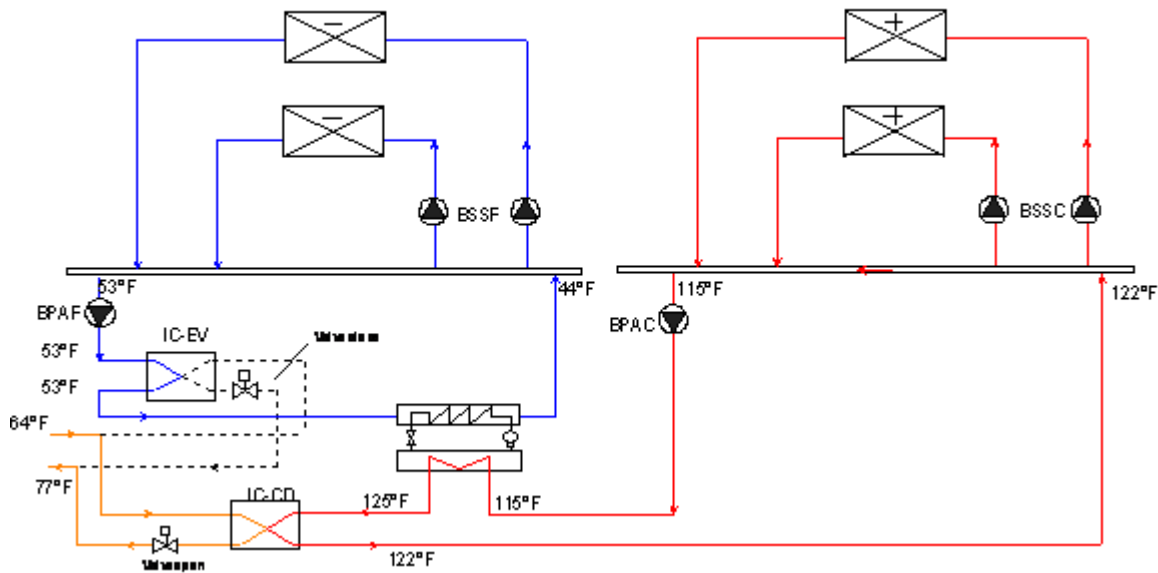

Figure 33. Loop-to-Loop Heat-Pump Cooling Dominated
3. **Cooling dominated (Figure 33)** – Simultaneous heating and cooling loads exist, with cooling being the dominant load. Excess heat is rejected from the hot-water loop via heat-exchanger IC-CD. The heat-exchanger is controlled to maintain the supply temperature of the hot-water loop. Since the temperature returning from the hot-water loop and entering the condenser may be substantially higher than in the cooling-only mode, the capacity and energy efficiency of the chiller are reduced.